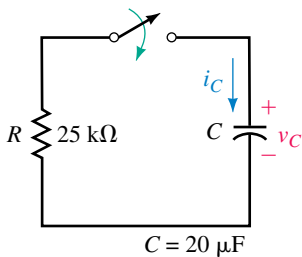

FIGURE 11–54
24. The initial voltage on the capacitor of Figure 11–54 is 55 V. The switch is closed at $t = 0$. Determine capacitor voltage and current at $t = 0^+$, 0.5 s, 1 s, 1.5 s, 2 s, and 2.5 s using the universal time constant curves.
26. The initial voltage on the capacitor of Figure 11–54 is 55 V. The switch is closed at $t = 0$ s and opened 1 s later. Sketch v_C . What is the capacitor's voltage at $t = 3.25$ s?